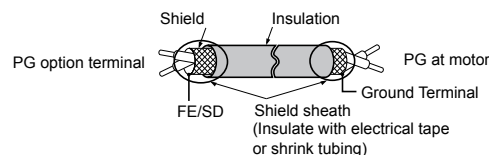
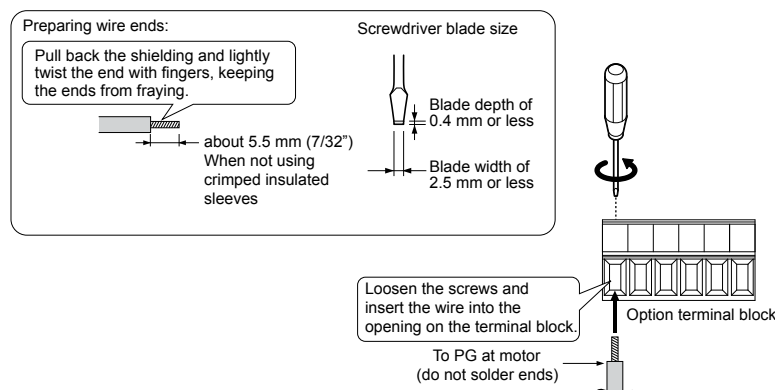

Figure 8.7 Preparing Ends of Shielded Cable
Figure 8.8 Preparing and Connecting Cable Wiring
2. There are two screw holes on the drive for use as ground terminals (H). When connecting three options, two ground wires will need to share the same drive ground terminal.
- 4.** Prepare and connect the wire ends as shown in Figure 8.7 and Figure 8.8. Refer to Wire Gauges and Tightening Torques of PG-X3 Option on page 470 or Refer to Wire Gauges and Tightening Torques of PG-X3 Option on page 470 to confirm that the proper tightening torque is applied to each terminal. Take particular precaution to ensure that each wire is properly connected and that wire insulation is not accidentally pinched into electrical terminals.